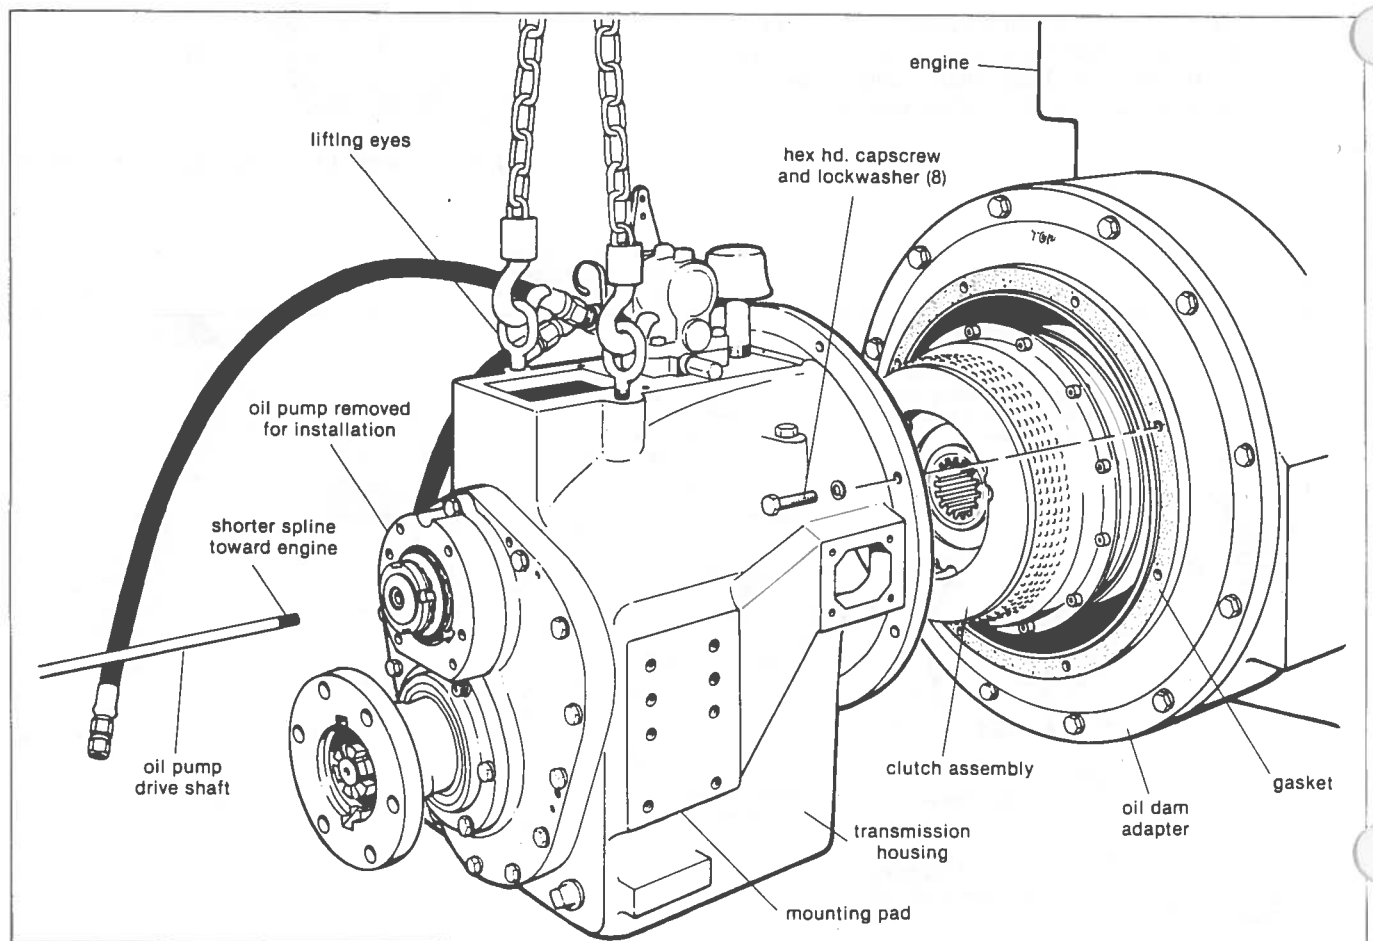

Fig. 7. Installation of Transmission Housing.
1. Using suitable hoist, lift marine gear assembly into position behind engine. Ease unit forward over clutch assembly, taking care that clutch discs enter reverse drum properly so that teeth are not damaged. See fig. 7.